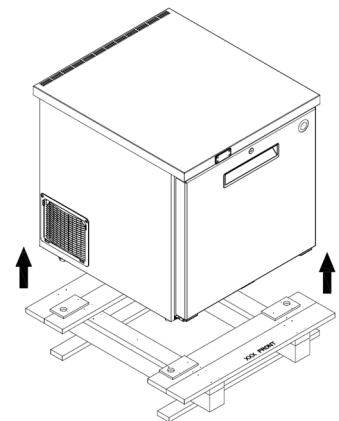

Fig.3
- The cabinet can be lifted off the pallet to remove wooden pallet (see Fig 3)